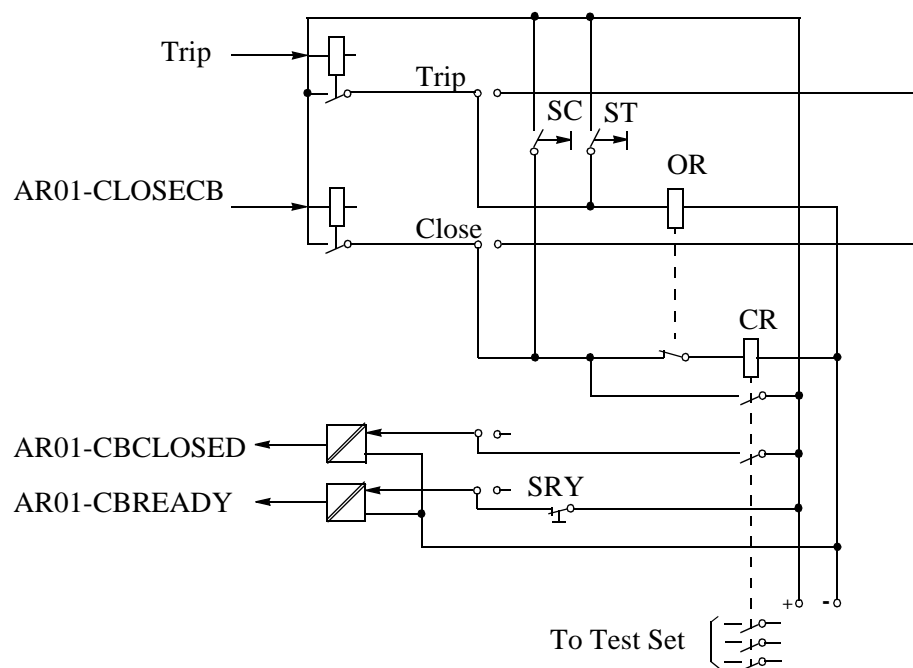

Figure 5: Simulating breaker operation with two auxiliary relays.
Figure 5: illustrates a recommended testing scenario, where the circuit breaker is simulated by an external bistable relay (BR), e.g. an RXMVB2 or an RXMVE1. These manual switches are available:
- Switch close (SC)
- Switch trip (ST)
SC and ST can be push-buttons with spring return. If no bistable relay is available, replace it with two self-reset auxiliary relays as in Figure 5:.
- 1.3 Do the testing arrangements outlined above, for example, as in Figure 5:.